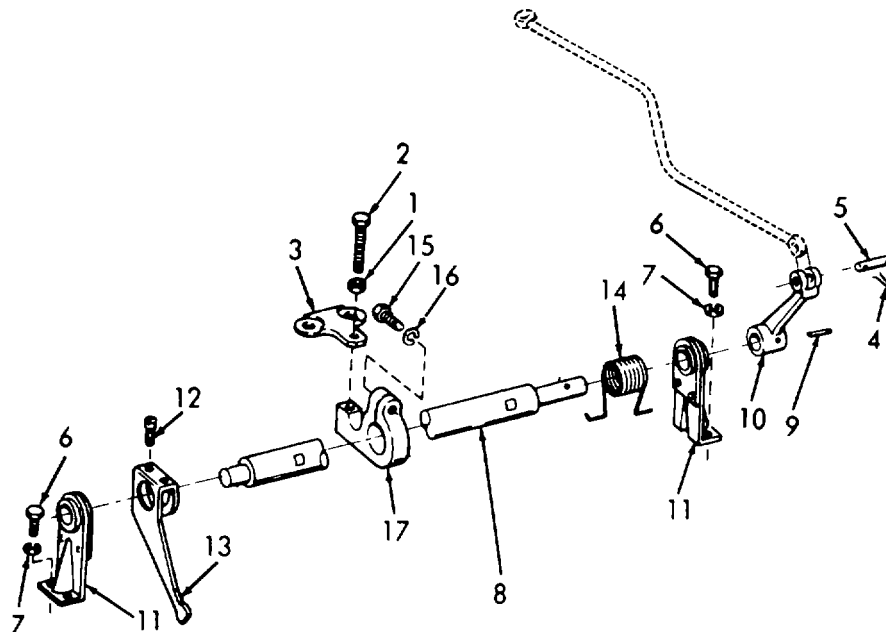

Figure 3-70. Injector Controls, Removal, Disassembly, Reassembly, and Installation.
a. Removal. (Refer to figure 3-70).
- (1) Loosen nut (1), bolt (2), and plate (3).
- (2) Remove cotter pin (4) and pin (5).
- (3) Remove four screws (6), four lockwashers (7), and shaft and lever assembly (8) from the cylinder head.
- (1) Refer to figure 3-70 and remove pin (9), lever (10) and two brackets (11).
- (2) Loosen eight adjusting screws (12) and remove four control levers (13) and spring (14).
- (3) Remove screw (15), lockwasher (16), and rocker arm (17).
- (1) Refer to figure 3-70 and install rocker arm (17) on shaft and lever assembly (8) and secure with lockwasher (16) and screw (15).
- (2) Install four levers (13) and tighten eight adjusting screws (12).
- (3) Install spring (14) and two brackets (11) on shaft and lever assembly.
- (4) Install lever (10) and pin (9).
- (1) Refer to figure 3-70 and position shaft and lever assembly into position. Be sure all levers fit into injector racks.
- (2) Install four lockwashers (7) and four screws (6). Torque the screws (6) to 10-12 lb-ft (14-16 Nm).
- (3) Position fuel control rod into lever (10) and secure with pin (5) and cotter pin (4).
- (4) Install plate (3), nut (1), and bolt (2). Tighten nut (1).